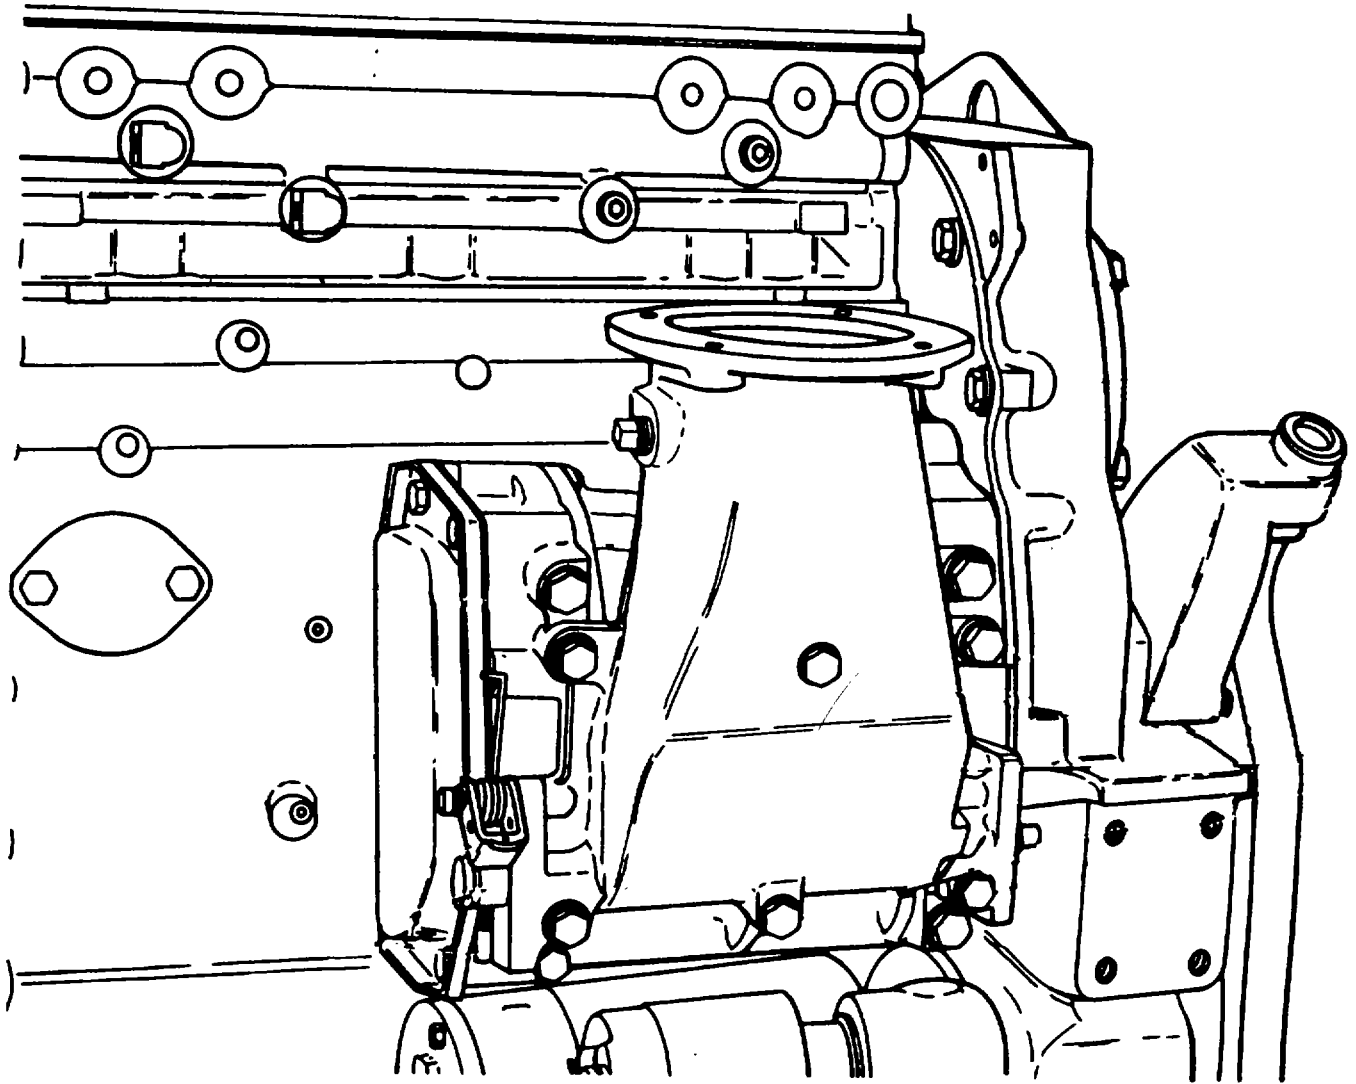

Figure 5-25. Blower Installation.
a. Blower, with a removable air inlet housing can be inspected without being removed from engine, (Fig. 5-25).
(1) Inspect rotors for scratches, chips or other abrasions. If burrs cause interference between rotors or between rotors and housing blower must be removed and repaired or replaced.
(2) Start engine and check for leaking oil seals. Leaky oil seals are indicated by presence of oil on blower rotors or inside the surfaces of housing. Run the engine at low speed and direct a light into the rotor compartment at end plates and oil seals. A thin film of oil radiating away from seal indicates an oil leak is present.